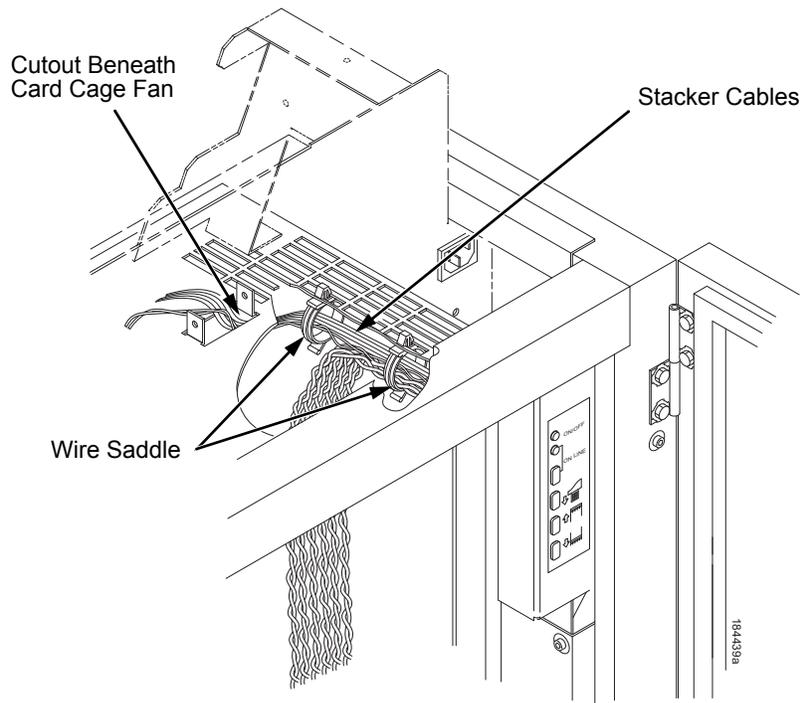

Figure 23. Securing Stacker Cables
31. Bundle the stacker control panel cables in the wire saddles located under the card cage. Tie wrap the cables so they do not catch in the stacker mechanism as it moves up and down. Route the stacker rail and frame cables so they move without snagging as the elevator assembly moves up and down. (Figure 23.)